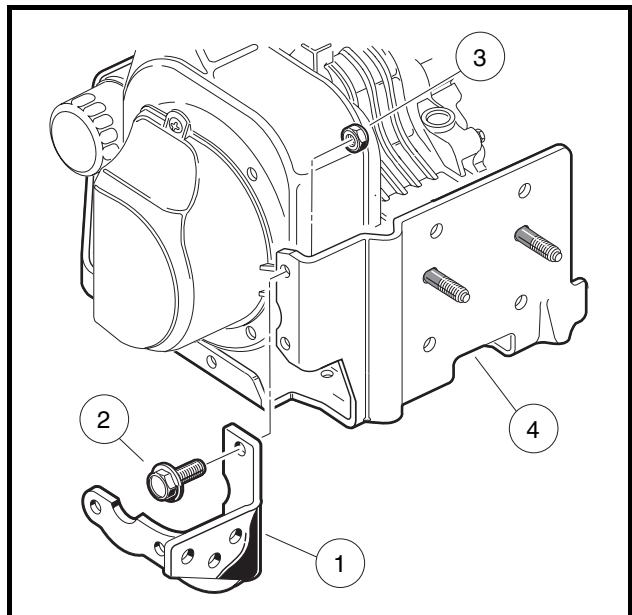

Figure 12-26 Stiffener Removal
6. Cut the wire tie holding the wire harness to the stiffener (1) and remove the bolts (2) and nuts (3) securing the stiffener to the mounting plate (4) (Figure 12-26, Page 12-25).
15. Install the stiffener with four hex-head bolts and lock nuts. Tighten the hardware to 23 ft-lb (30.5 N·m) (**Figure 12-26, Page 12-25**).
17. Secure the wire harness to the stiffener with a wire tie. Place the wire tie through the lower hole at the back of the stiffener (**Figure 12-26, Page 12-25**).